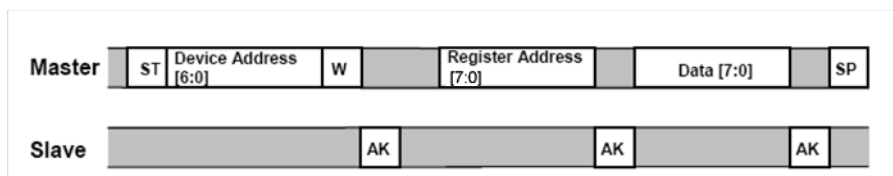

Figure 9. Single Byte Write - The Master (MCU) is writing to a single register of the MMA7456L
To start a write command, the Master transmits a start condition (ST) to the MMA7456L, slave address (\$1D) with the R/W bit set to “0” for a write, the MMA7456L sends an acknowledgement. Then the Master (MCU) transmits the 8-bit address of the register to write to, and the MMA7456L sends an acknowledgement. Then the Master (or MCU) transmits the 8-bit data to write to the designated register and the MMA7456L sends an acknowledgement that it has received the data. Since this transmission is complete, the Master transmits a stop condition (SP) to the data transfer. The data sent to the MMA7456L is now stored in the appropriate register. See Figure 9.